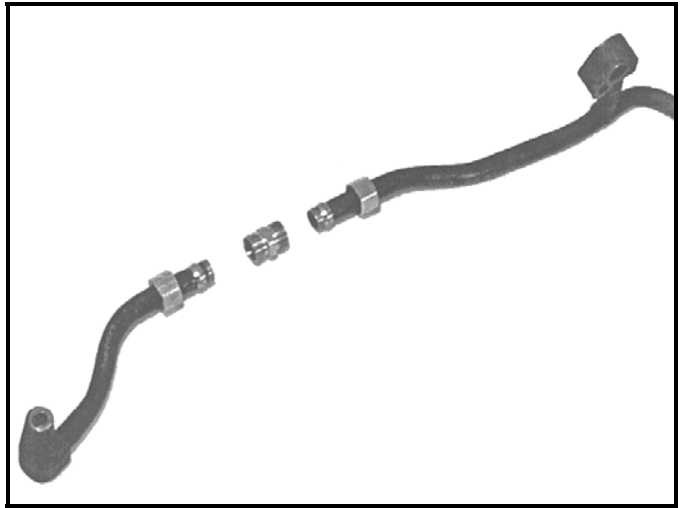

Figure 2
3. Slip the compression nut from the cylinder head installation kit, Holley P/N 301-33, over the cut AIR crossover tube, then install the compression ring. Do this on each end of the tube. See Figure 2.